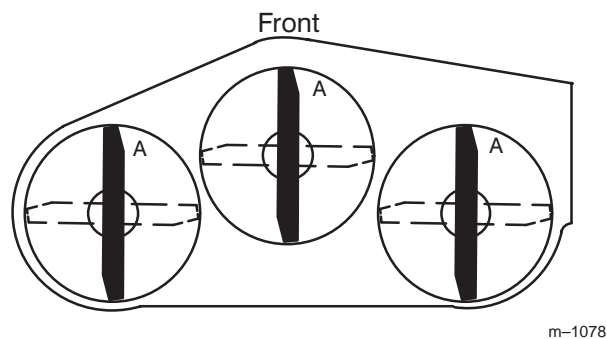
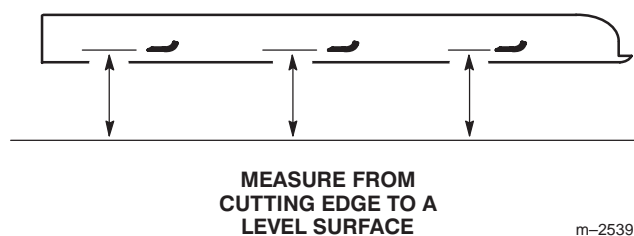

Figure 47
Figure 48
1. Rotate the blades until the ends face forward and backward (Fig. 47). Measure from a level surface to the cutting edge, position A, of the blades (Fig. 48). Note this dimension.